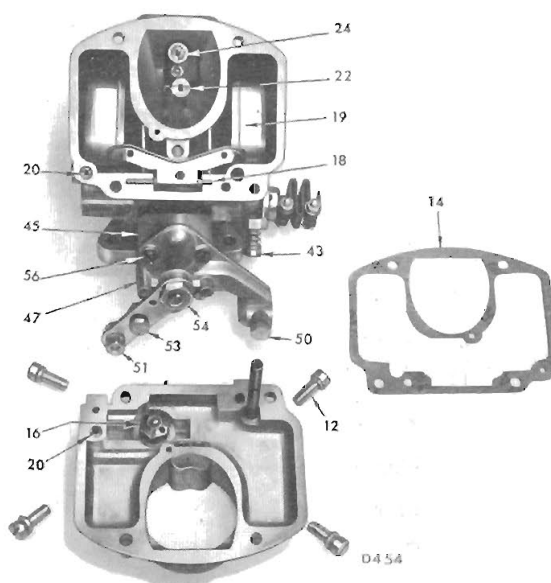

Fig. 37. Top cover and float chamber details
Remove the gasket (14) (Fig. 37), lift out the twin floats (19) and remove the pivot pin (18).